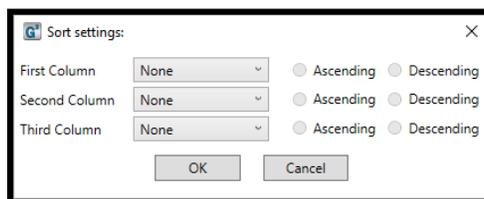

Figure 41
- 2) The following dialogue box will appear (Figure 41).